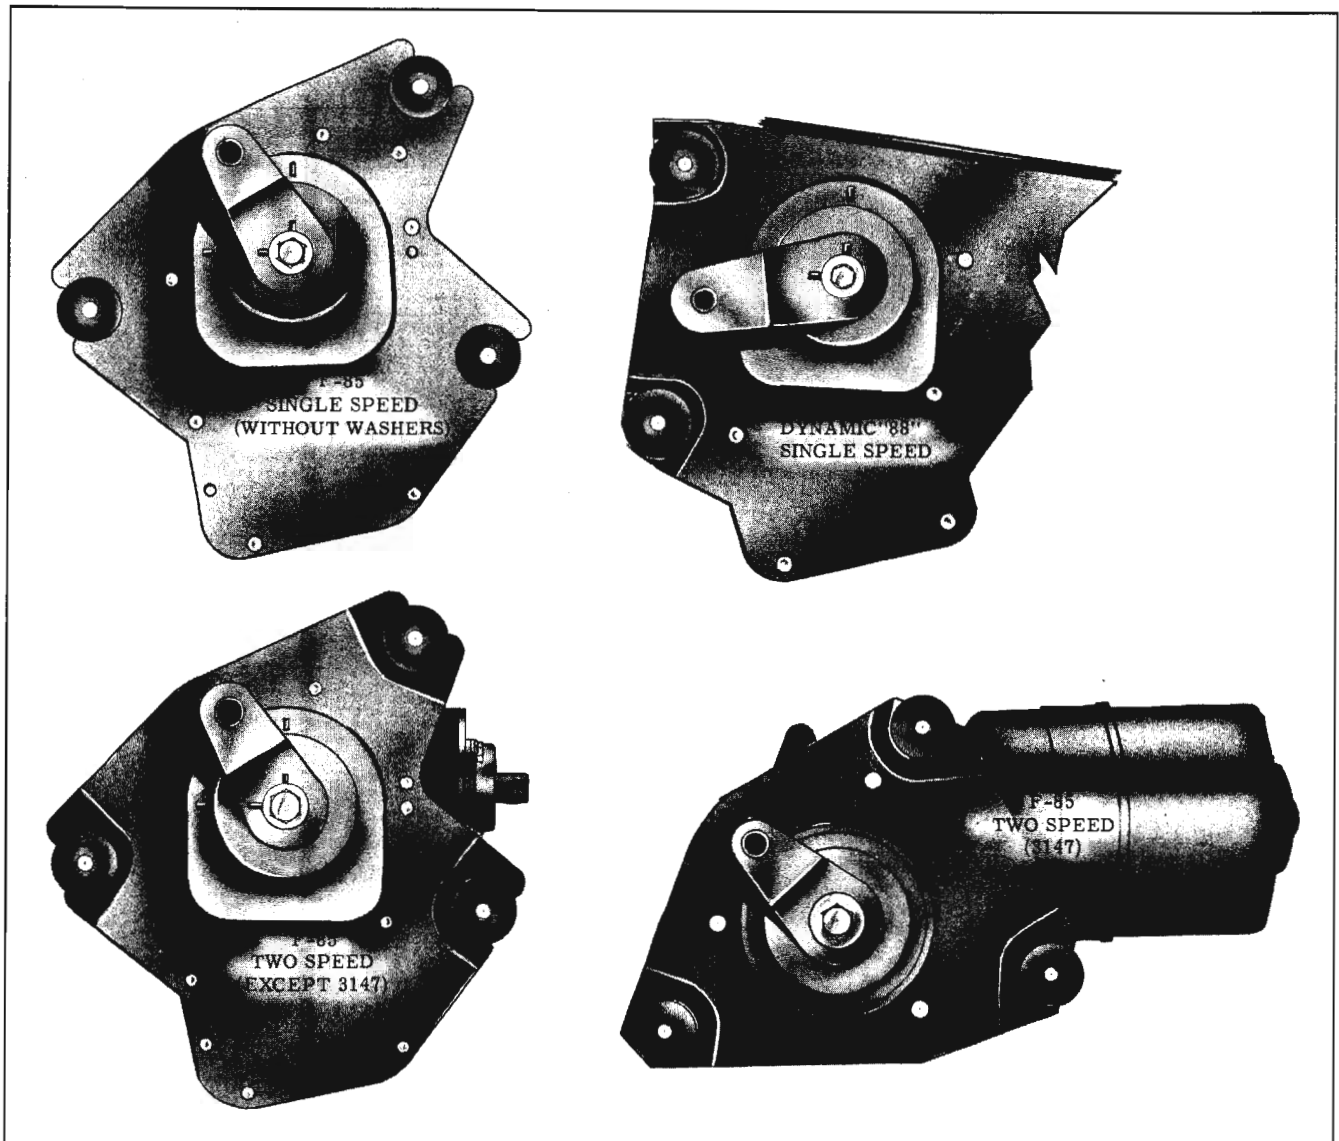
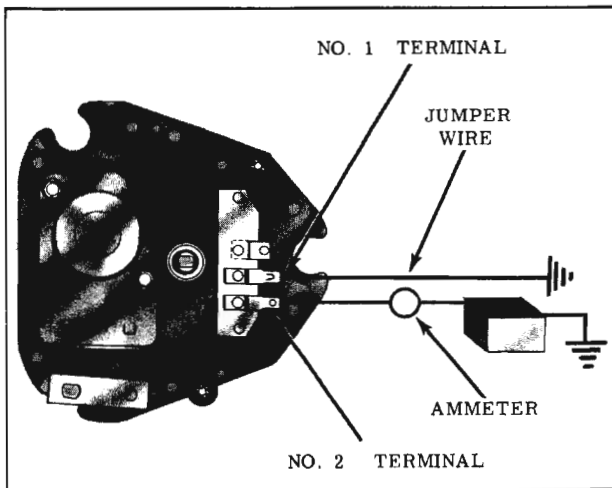

Fig. 14-164 Crank Arm in Park Position
Fig. 14-170 Terminal Board Connections
1. With wiper motor crank arm in the park position, as shown in Fig. 14-164, place the motor assembly on the cowl panel and install
2. Reassembly of Crank Arm - Operate wiper to park position and install crank arm on output shaft so that identification marks line up with those in the cover. (Fig. 14-164) Clamp crank in vise before securing the retaining nut.
- 2. If everything checks out in Step 1 and wiper fails to operate, disconnect wiring harness from wiper and check for 12 volts at harness terminal that connects to wiper terminal No. 2. (Fig. 14-170) No voltage indicates defective car wiring.
3. Connect 12 volt supply to No. 2 wiper terminal and connect a jumper wire from terminal No. 1 to ground. (Fig. 14-170) If wiper operates, the dash switch or wiring between dash switch and wiper is defective.
2. If wiper still operates in Step 1, disconnect wiring from wiper and connect 12 volt supply direct to wiper terminal No. 2 (Fig. 14-170) DO NOT connect any jumper wire to terminal No. 1.
Connect 12 Volt DC power source and ammeter to wiper as shown in Fig. 14-170 and observe current draw and wiper operation. NOTE: Identify wiper part number from wiper motor end cap and select proper current draw from specification table.
Wiper crank arm stops rotating immediately when jumper wire is disconnected from wiper terminal No. 1. (Fig. 14-170) NOTE: When crank arm has reached park position, the crank arm index grooves will line up approximately with the ridges on the gear box cover. (Fig. 14-164)
Wiper crank arm fails to stop in park position when jumper wire is removed from wiper terminal No. 1. (Fig. 14-170)
- 2. Check for grounded condition in the internal motor lead that connects to terminal No. 1. (Fig. 14-170)